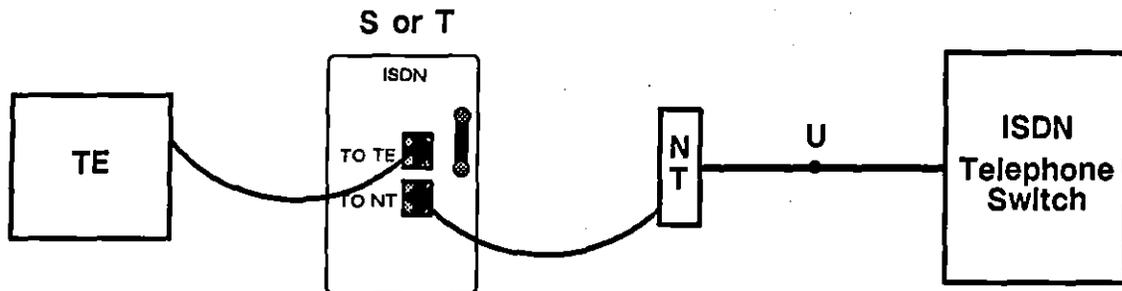

Figure 51-4 To monitor the line, connect both interfaces, TO TE and TO NT, to the line at the S or T interface.
1. *Monitor.* Figure 51-4 shows the test configuration when the INTERVIEW is monitoring at the S or T interface. Connect both interfaces, TO TE and TO NT, to the line.